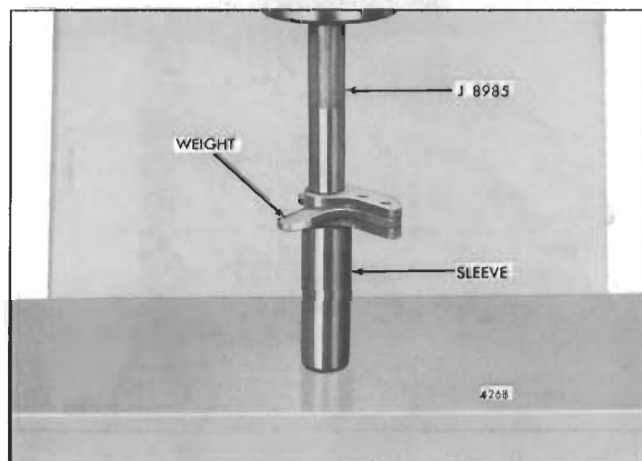

Fig. 10 - Removing Governor Weight Bearings
- d. Position the high-speed governor weight on a sleeve on the bed of an arbor press and press the bearing from the weight using replacer J 8985 as shown in Fig. 10.